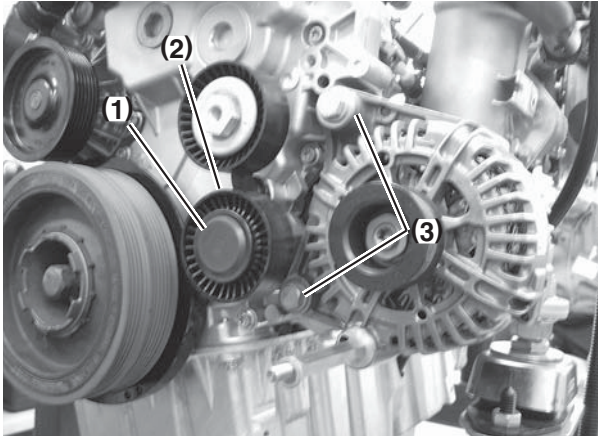

Figure 11-3
6. Pry off protective cap (**Figure 11-3, (1)**) and remove the bolt that secures idler pulley (**Figure 11-3, (2)**).
7. Remove two bolts (**Figure 11-3, (3)**) and remove alternator from engine.